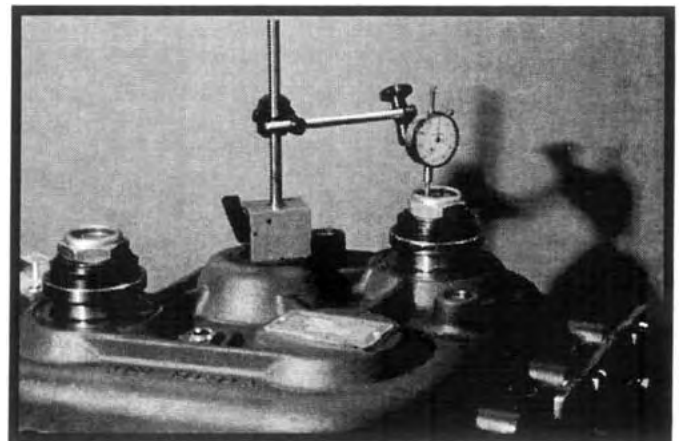

Figure 6.43
23. Pry the input shaft up and tap down several times to seat the bearing cups. Mount a dial indicator as shown in Figure 6.43. Pry the shaft up and down and note the amount end float.